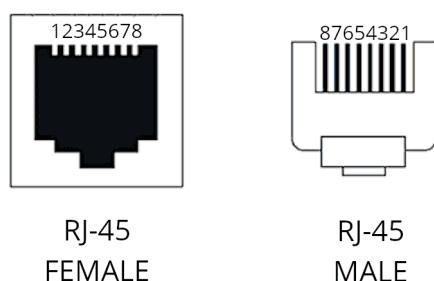

Fig. 3 Connector 1 Pinout
This connector is used to communicate the DC/DC converter (EPC) and the *CAN - CANopen interface*. It is a standard RJ-45 socket and its pinout can be seen in Fig. 3.
The pinout of this connector is the same as CONNECTOR ① (See Fig. 3).